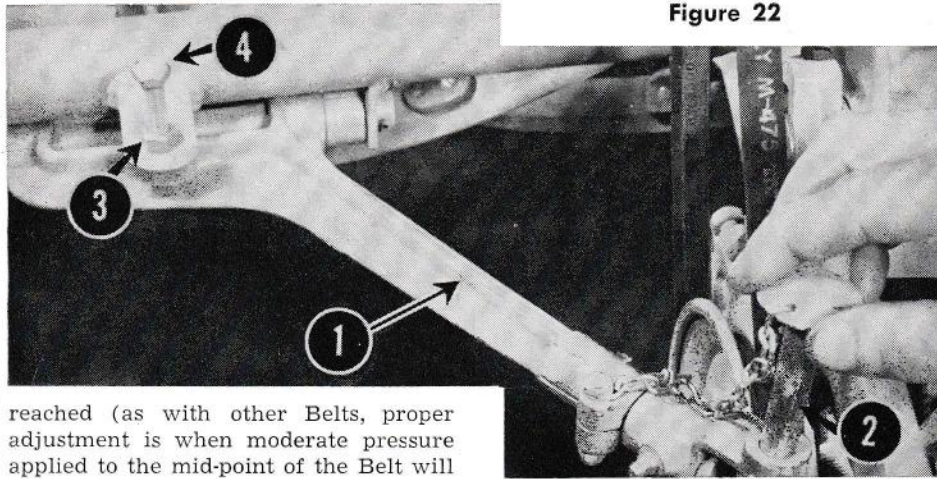

Figure 22
Next attach the Leader, 1 in Figure 22, as follows:
1. Remove the top Tie Rod Bolt, 5 in Figure 19, replacing it with the Leader Pivot and Stud, as shown in Figure 22.
2. Attach the Leader Swivel to the Leader Pivot by using the Leader Swivel Pin, 2 in Figure 22. On new equipment, the Leader Swivel Pin may not fit easily because of paint on the Pin and inside the holes into which it fits. Use fine emery paper to remove the paint.
cutting height, loosen the lock nut, 3 in Figure 22, and turn the Height Adjusting Screw 4, in Figure 22, clockwise (to increase cutting height) or counter-clockwise (to lower cutting height). Tighten the lock nut when proper adjustment is reached.